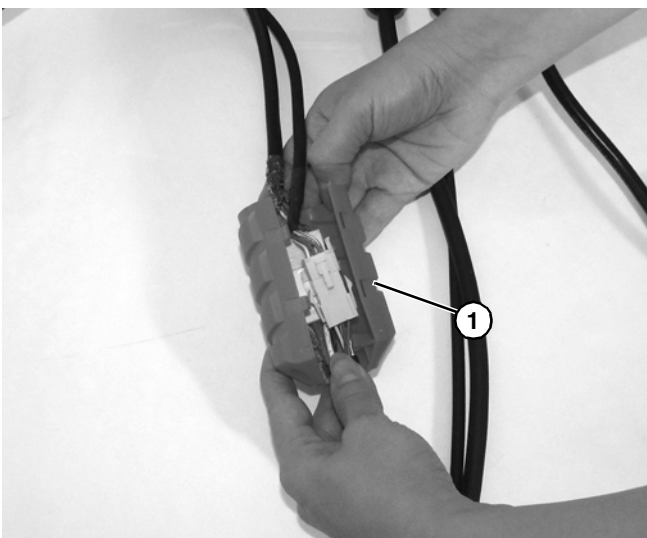

Figure 18
3. Open inner cord cover (**Figure 18, item 1**).